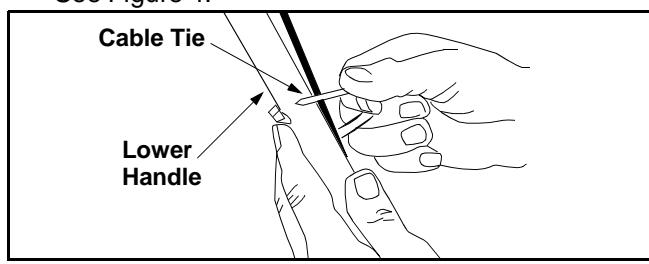

Figure 4
- Fasten the cables to the lower handle with the two cable ties found on the lower handle. Be sure to insert the post on the cable ties into the holes provided on either the inside or outside of the handles. Pull the cable ties tight and trim off the excess. See Figure 4.